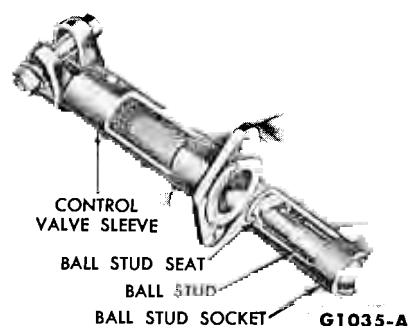

FIG. 15—Installing Ball Socket, Seal and Bracket
4. Place the socket in the control valve sleeve so that the threaded end of the ball stud can be pulled out through the slot in the sleeve (Fig. 15).